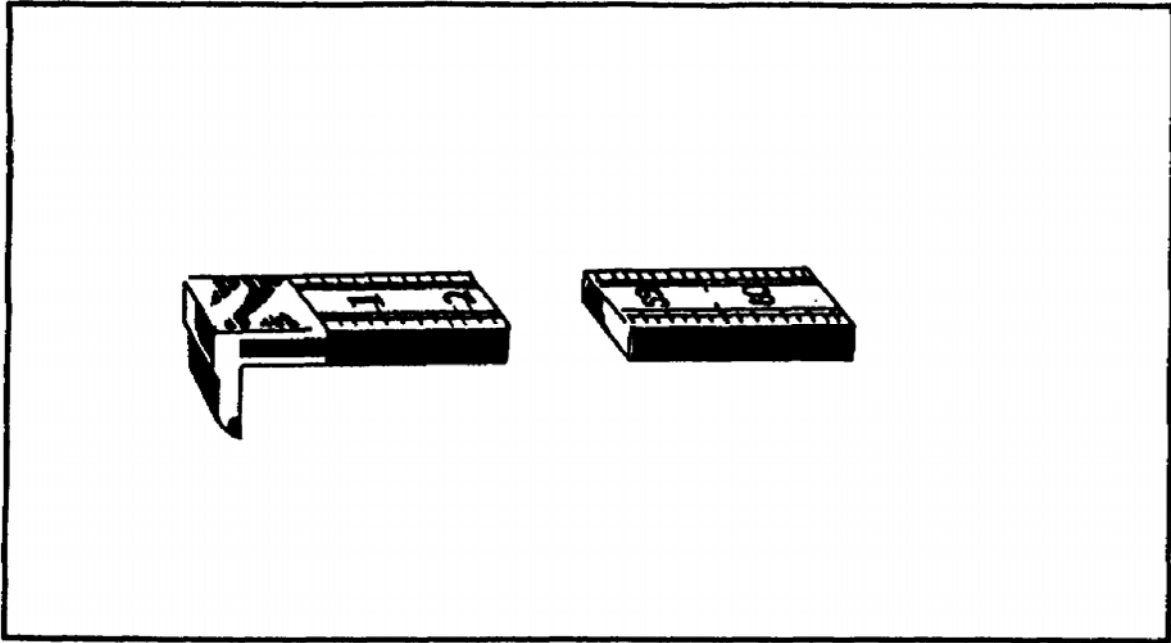

FIGURE 167. GLAZIER'S RULE.
(5) *Glazier's Rule*. A glazier's rule (figure 167) is used primarily for measuring glass and has a lip, similar to a hook rule. The lip is non-adjustable and is used as a rest. It is held against the glass edge when measuring. This rule is normally 5 feet long, 5/16 inch thick, and 2 inches wide.